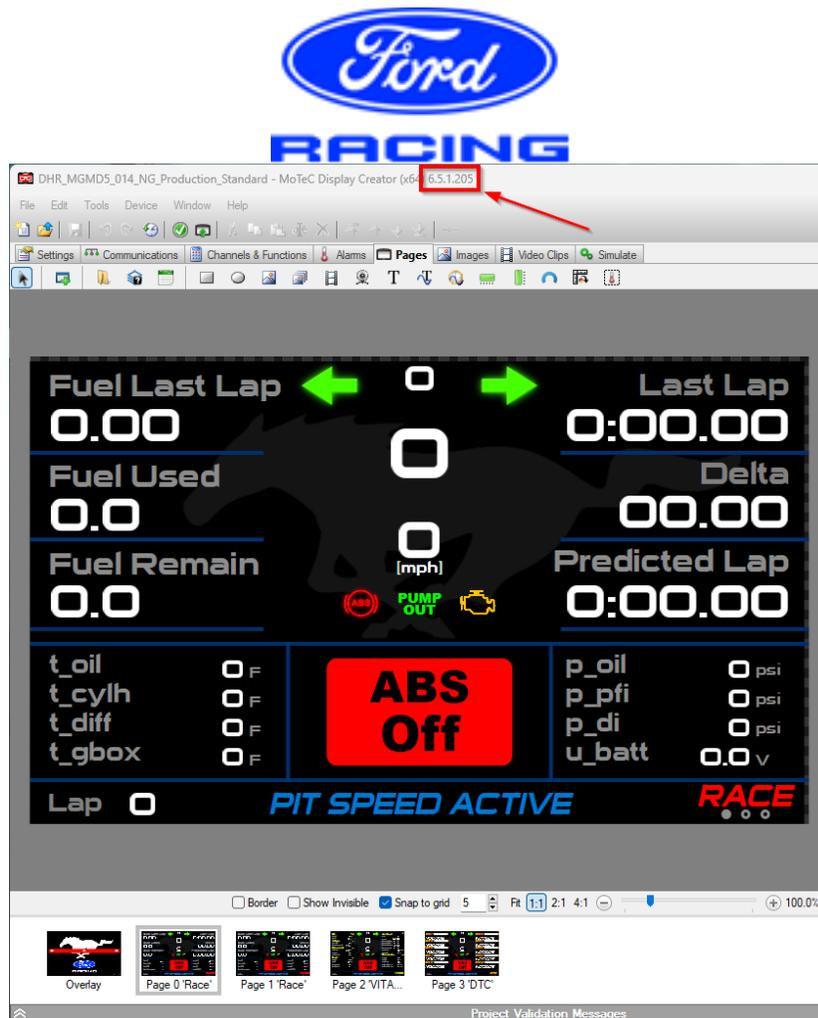

Figure 5: Motec Display Creator – application version.
2. Confirm you are using the latest version (version 6.5.1.205 or newer). It is displayed on the top banner of the application window shown in Figure 5.